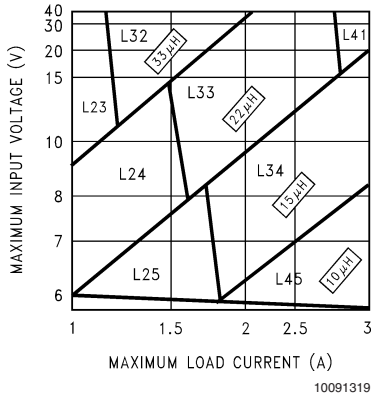
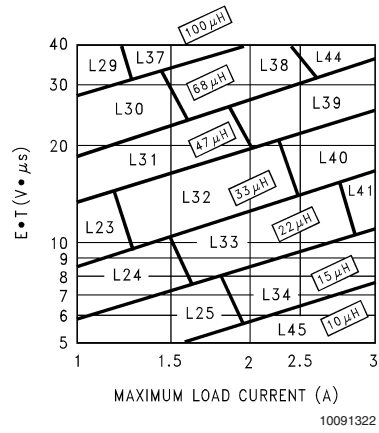

FIGURE 3. LM2673-3.3
FIGURE 6. LM2673-ADJ
Step 3: Determine the inductor required by using one of the four nomographs, *Figure 3* through *Figure 6*. Table 1 provides a specific manufacturer and part number for the inductor.
Step 5: Determine an input capacitor from Table 4 for fixed output voltage applications. Use Table 2 to find the specific capacitor type. For adjustable output circuits select a capacitor from Table 2 with a sufficient working voltage (WV) rating greater than $V_{in\ max}$, and an rms current rating greater than one-half the maximum load current (2 or more capacitors in parallel may be required).
Step 3: Use the nomograph for the 3.3V device, *Figure 3*. The intersection of the 16V horizontal line (V_{in max}) and the 2.5A vertical line (I_{load max}) indicates that L33, a 22µH inductor, is required.
Step 3: To use the nomograph for the adjustable device, *Figure 6*, requires a calculation of the inductor Volt•microsecond constant (E•T expressed in V•µs) from the following formula:
Using *Figure 6*, the intersection of 27V•μS horizontally and the 2A vertical line (I_{load} max) indicates that L38, a 68μH inductor, should be used.
Important Note: When using the adjustable device in low voltage applications (less than 3V output), if the nomograph, *Figure 6*, selects an inductance of 22μH or less, Table 6 does not provide an output capacitor solution. With these conditions the number of output capacitors required for stable operation becomes impractical. It is recommended to use either a 33μH or 47μH inductor and the output capacitors from Table 6.